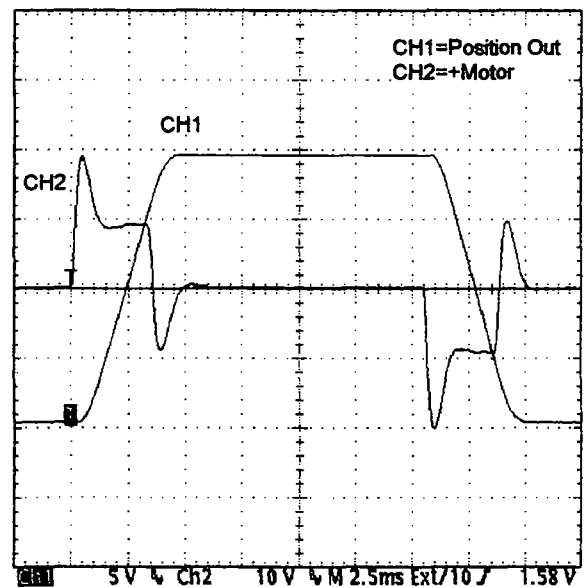

Figure18.
7. Iterate steps 5 and 6 until the maximum angle for the system configuration is reached. See Figure 18.